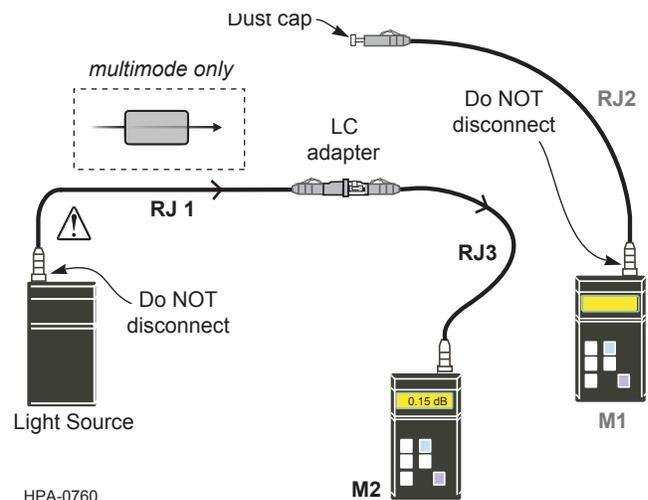

Figure 10
**Step 9:** Clean and install an LC to LC jumper-Reference Jumper no.3 (**RJ3**) into **M2** and the LC adapter (Figure 10).